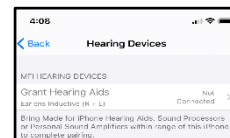

Figure 10
4. Once the hearing aids are discovered, the First Name + Hearing Aid and R+L* will display (Figure 10).